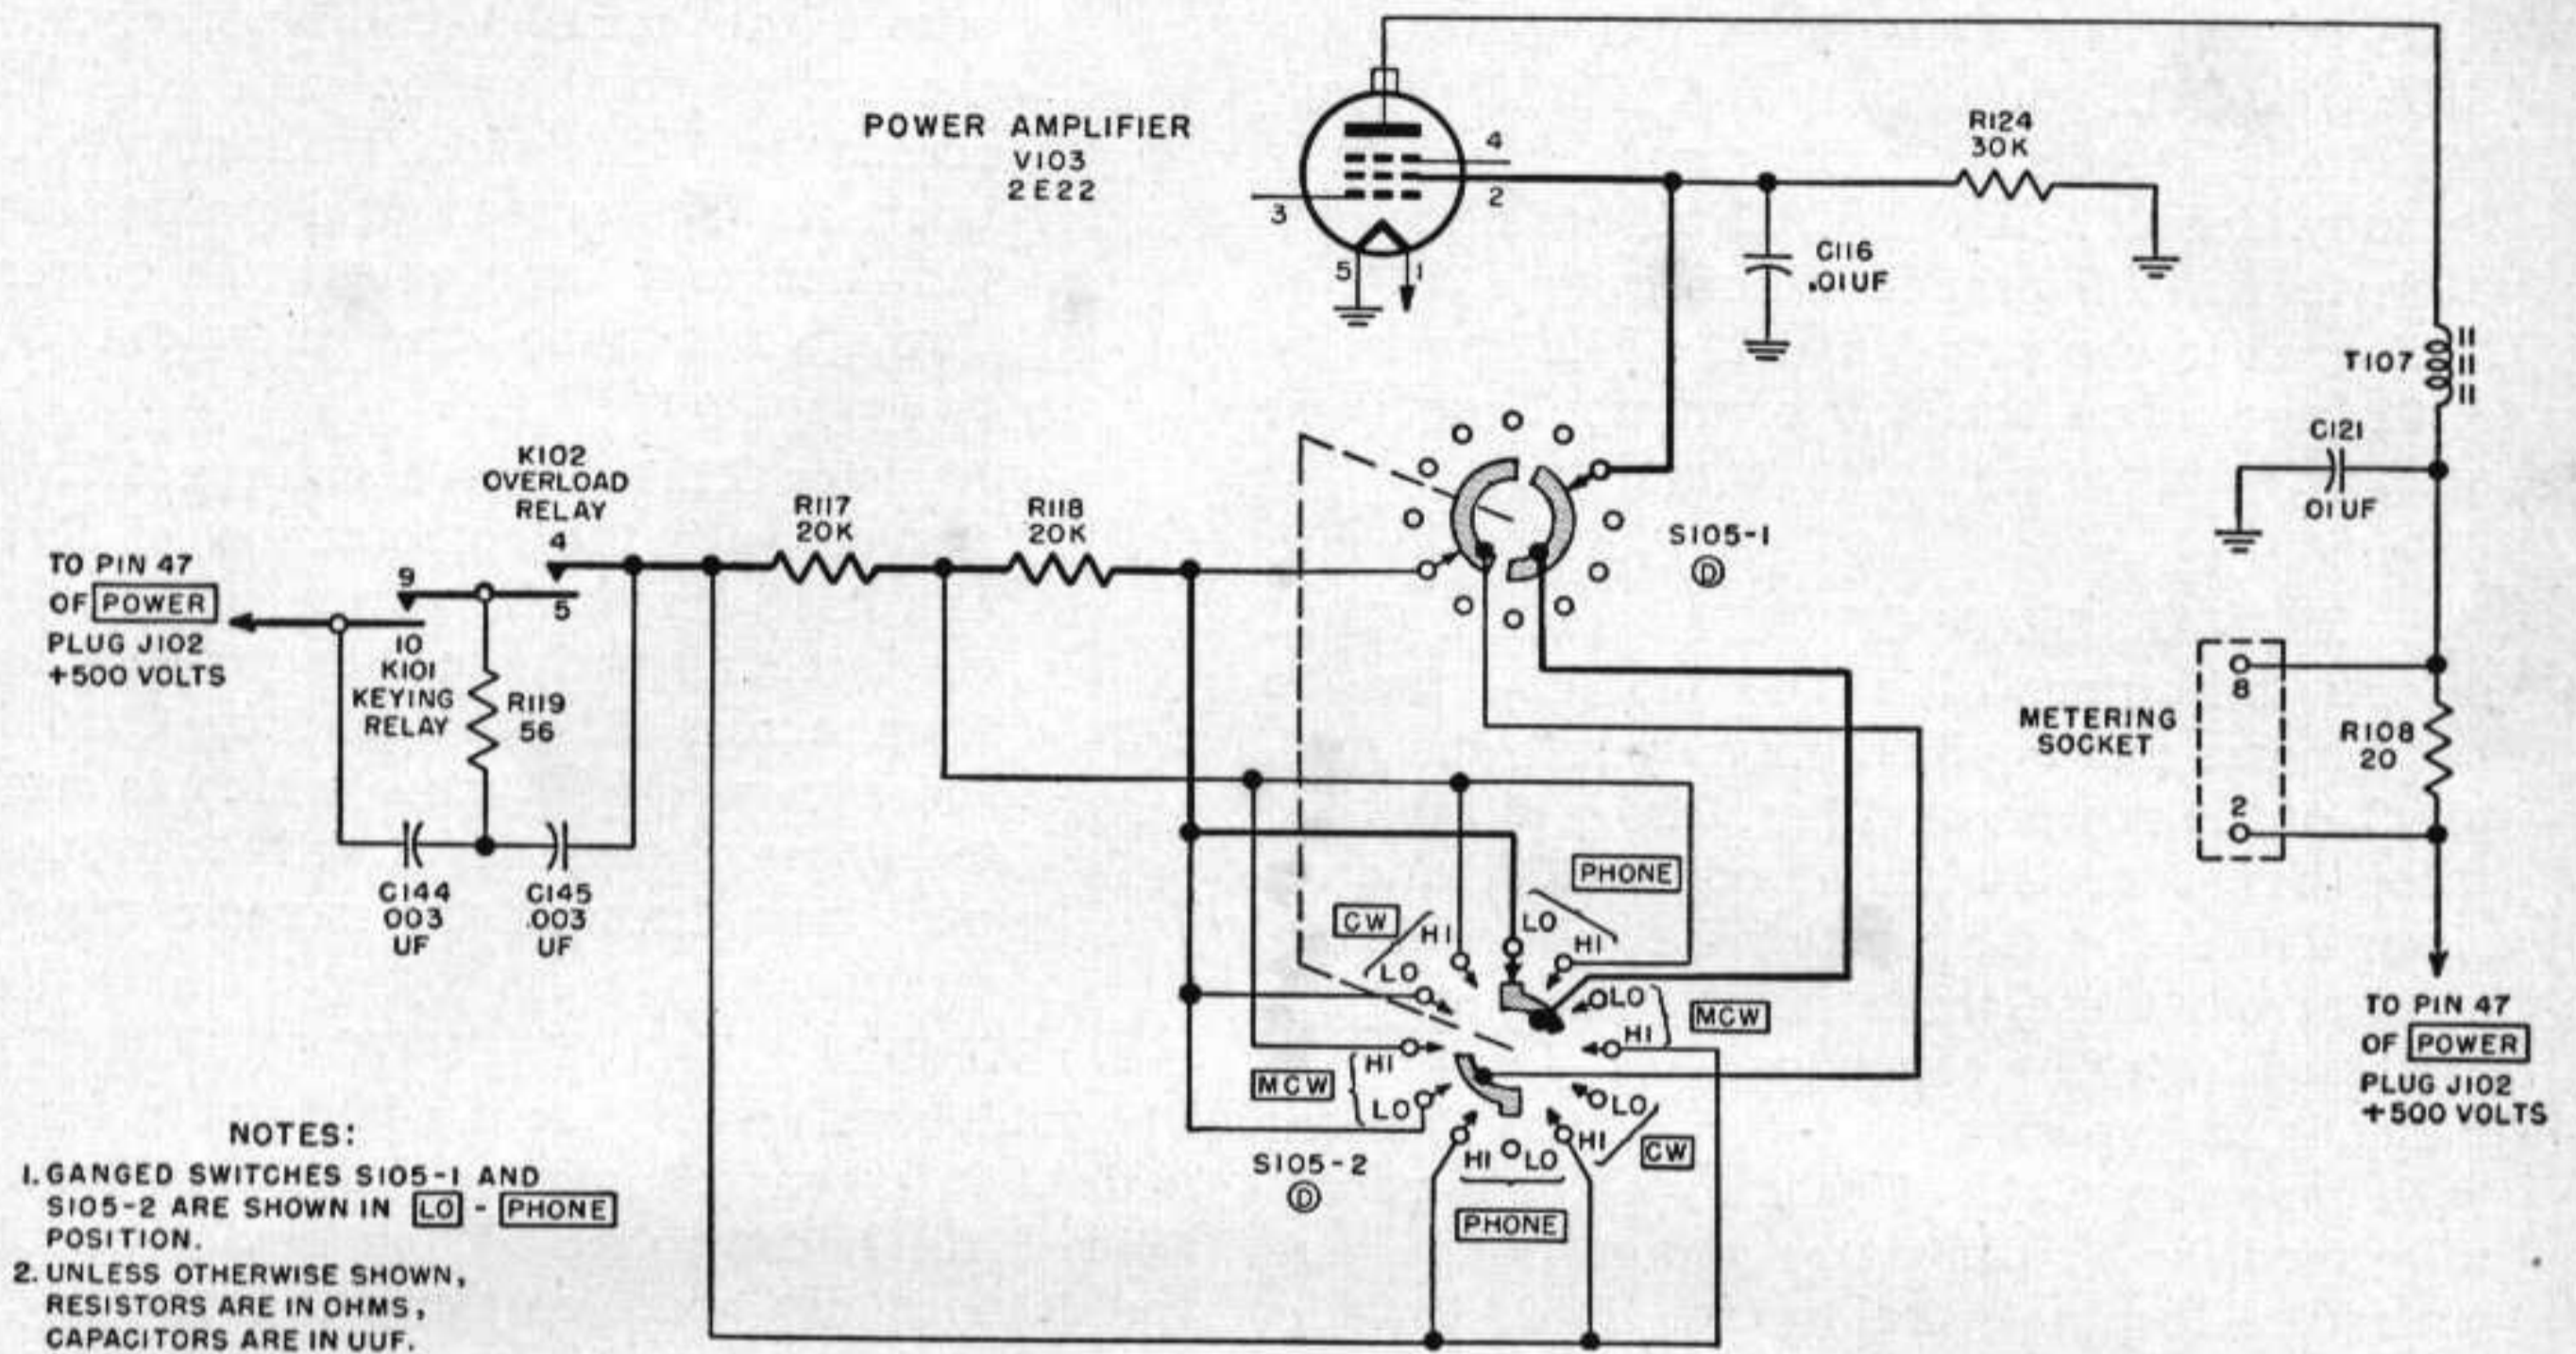
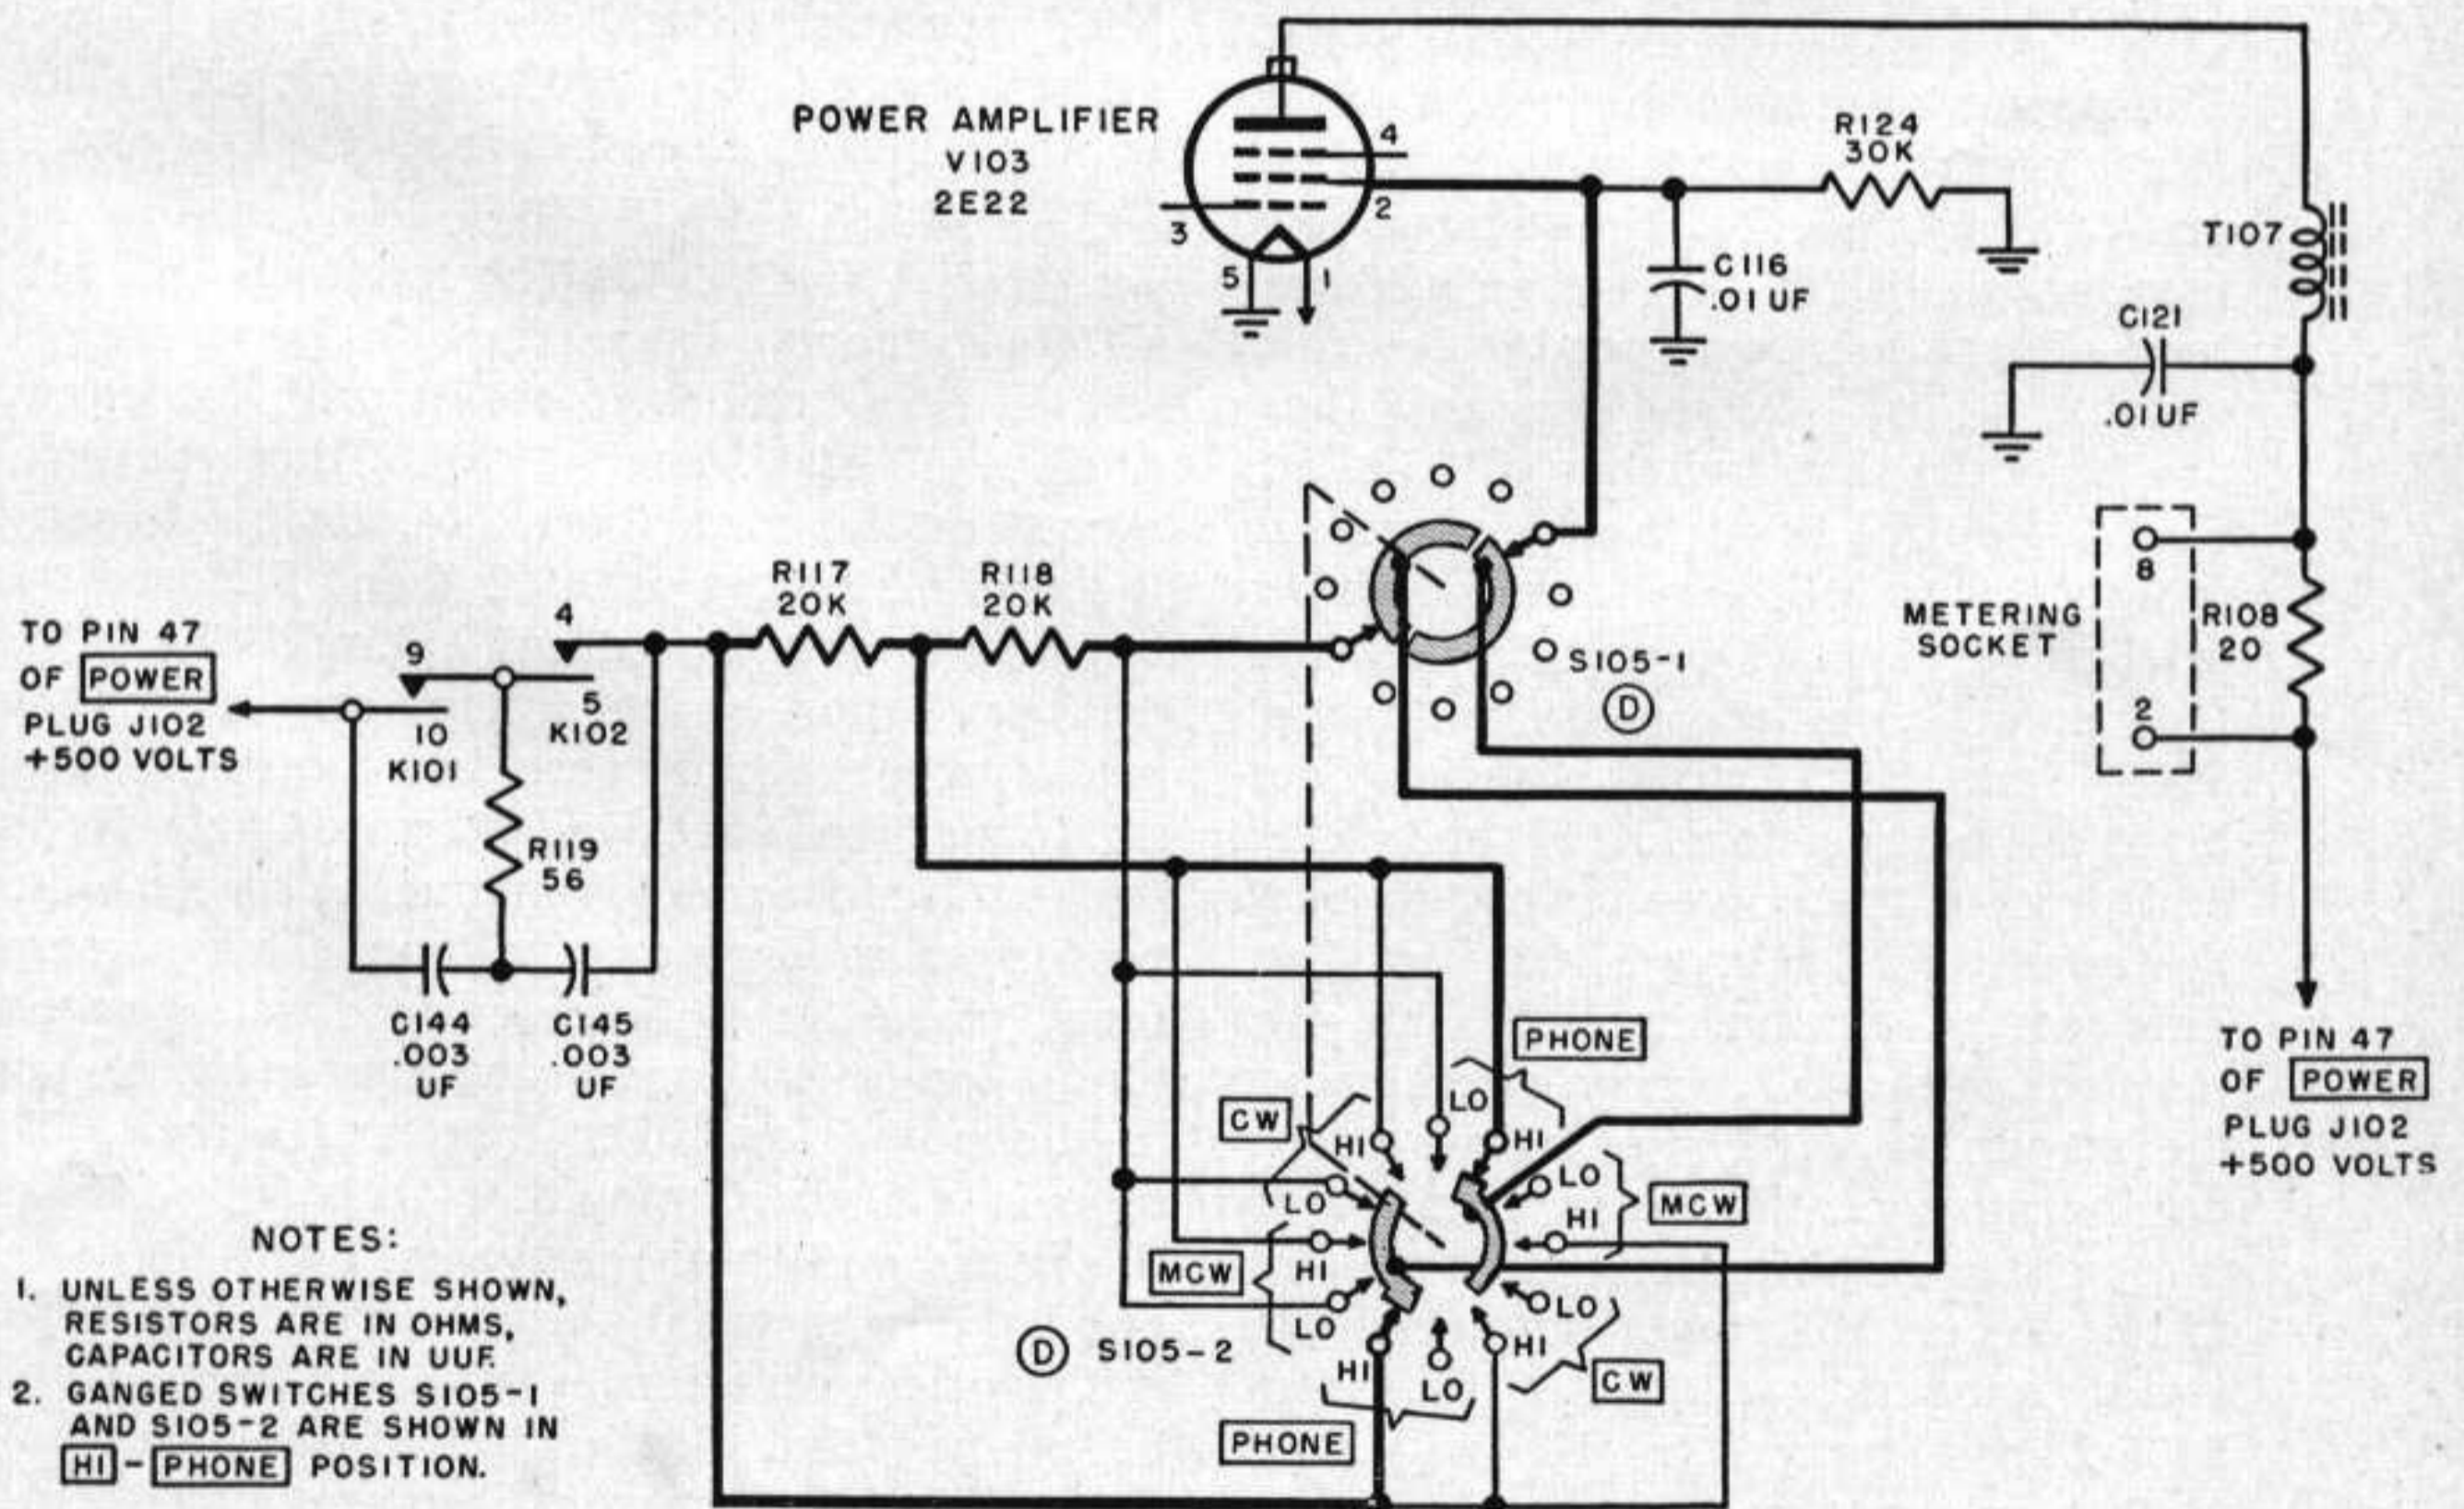

Figure 74. Power amplifier screen grid circuits arranged for LO (low) power operation.
Figure 75. Power amplifier screen grid circuits arranged for HI (high) power operation.
d. SCREEN GRID CIRCUIT, HI AND LO POWER (fig. 74).
- (1) The power output of the power amplifier is controlled by varying the screen grid voltage. R124, the screen grid bleeder, stabilizes the screen grid voltage. There are two possible levels of output; HI and LO power, and these are selected by switches S105-1 and S105-2, control D. If the weighted line in figure 74 is followed from the screen grid, pin 2 of V103, it will be seen that the screen current passes through S105-1 and S105-2 to the series combination of resistors R117 and R118, and then to the power supply through the contacts of relays K102 and K101. This series arrangement of the two resistors is the LO power circuit since the screen of V103 is at a low potential because of the large drop across the series combination of R117 and R118. When HI power output is desired, ganged switches S105-1 and S105-2 are turned to HI and R117 is then placed in parallel with R118 (fig. 75). There is less voltage drop
- (2) As soon as the key is pressed down, a small signal current starts to flow in the power amplifier grid circuit, causing coil K102A to be energized and contacts 4 and 5 to close. Because coil K102B had already been energized and the iron core magnetized when the key was up, it is possible for the signal current through K102A to be only a very small value to close contacts 4 and 5. Therefore, more rapid keying is allowed since, almost immediately upon key closure, coil K102A has enough energy to close the power amplifier screen grid circuit.
- (3) If coil K102A had to magnetize the iron core from a point of zero magnetism, there would be an appreciable time lag until the current through K102A became great enough to produce a magnetic field strong enough to close contacts 4 and 5.
h. ARC SUPPRESSION. When the contacts of relays K101 and K102 open, arcs are formed which create r-f disturbances, called key-clicks, in addition to damaging the contacts. These arcs can not be eliminated but the length of their duration with each opening of the contact can be shortened considerably by means of a suitable filter or arc suppression circuit. This is the function of capacitors C144 and C145 and resistor R119 (fig. 75).